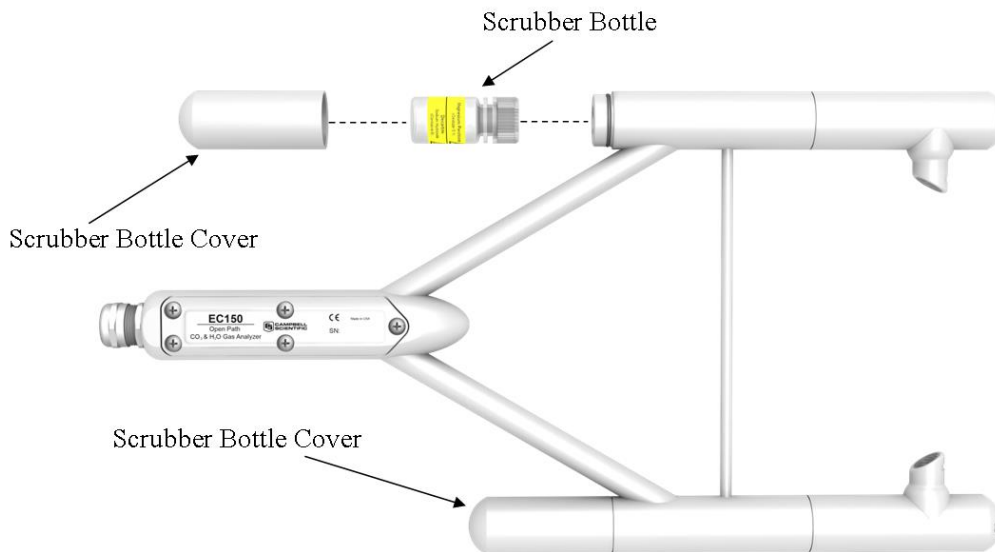

FIGURE 8-2. Replacing the desiccant/CO2 scrubber bottles
If more than one year has passed since replacing the desiccant/scrubber or if the zero-and-span readings have drifted excessively (see Section 7, *Zero and Span* (p. 25)), the desiccant/scrubber bottles within the EC150 analyzer head should be replaced. FIGURE 8-2 gives the details needed for the following steps.
2. Remove the EC150 chemical bottles (pn 26510) from inside the covers, and replace them with new bottles with the lid of the bottle pointing toward the snouts of the analyzer (see FIGURE 8-2).